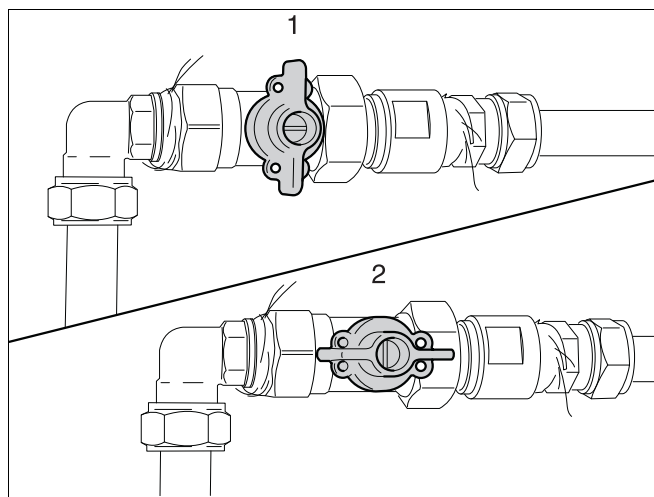

fig. 56 Gas shut-off valve closed (1), gas shut-off valve open (2)
- Close the gas shut-off valve (see fig. 56, pos. 1).
- Carefully open the gas shut-off valve (see fig. 56, pos. 2).
- Close the gas shut-off valve (see fig. 56, pos.1).
- Open again the gas shut-off valve (see fig. 56, pos. 2).
- Open the gas shut-off valve (see fig. 56, pos. 2).